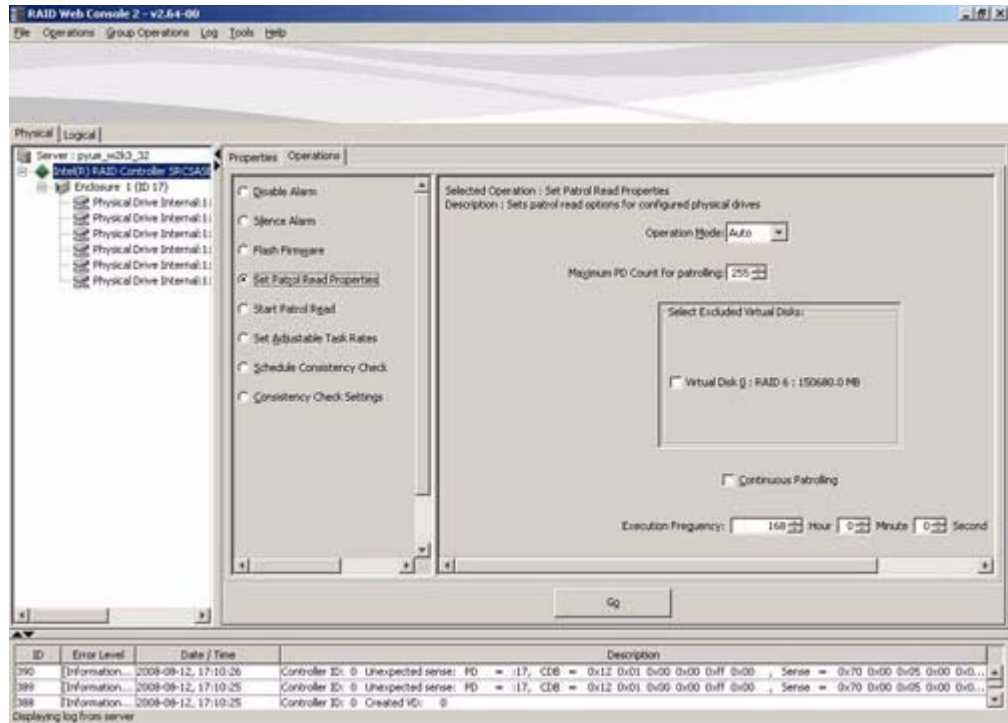

Figure 76. Patrol Read Configuration
2. Select the **Operations** tab in the right panel, and select **Set Patrol Read Properties**, as shown in Figure 76.
- **Manual:** Patrol Read runs only when you manually start it by selecting **Start Patrol Read** from the controller options screen (see Figure 76).